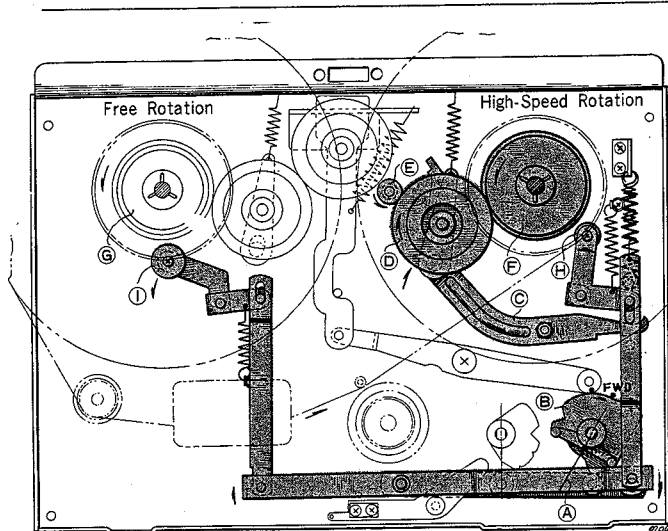

Fig. 3
Turning the *FAST FWD-REWIND knob (A)* to "FAST FWD" position, causes the *cam (B)* under the knob to push up *Lever (C)*. *Idler (D)* moves into the space between *Plastic Roller (F)* above the *Take-Up Reel Spindle* and the upper part of the rotating motor drive bushing to transmit the motor rotation to the take-up reel spindle. At the same time, *Brake Rollers (H) and (I)* comes off the reel spindle to free the *Supply Reel Spindle (G)*, thereby allowing fast winding of the tape onto the take-up reel. (See figure 3)